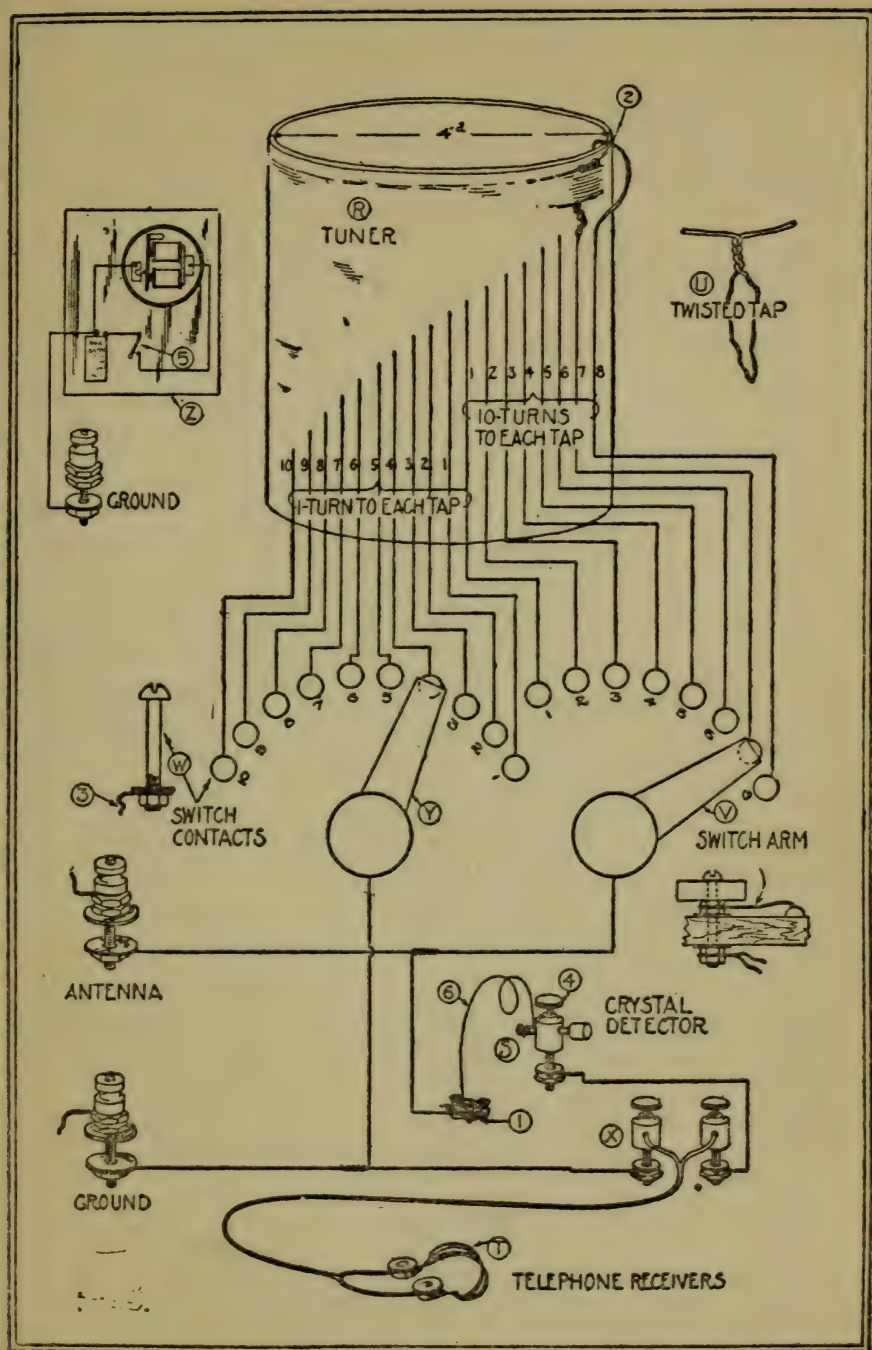
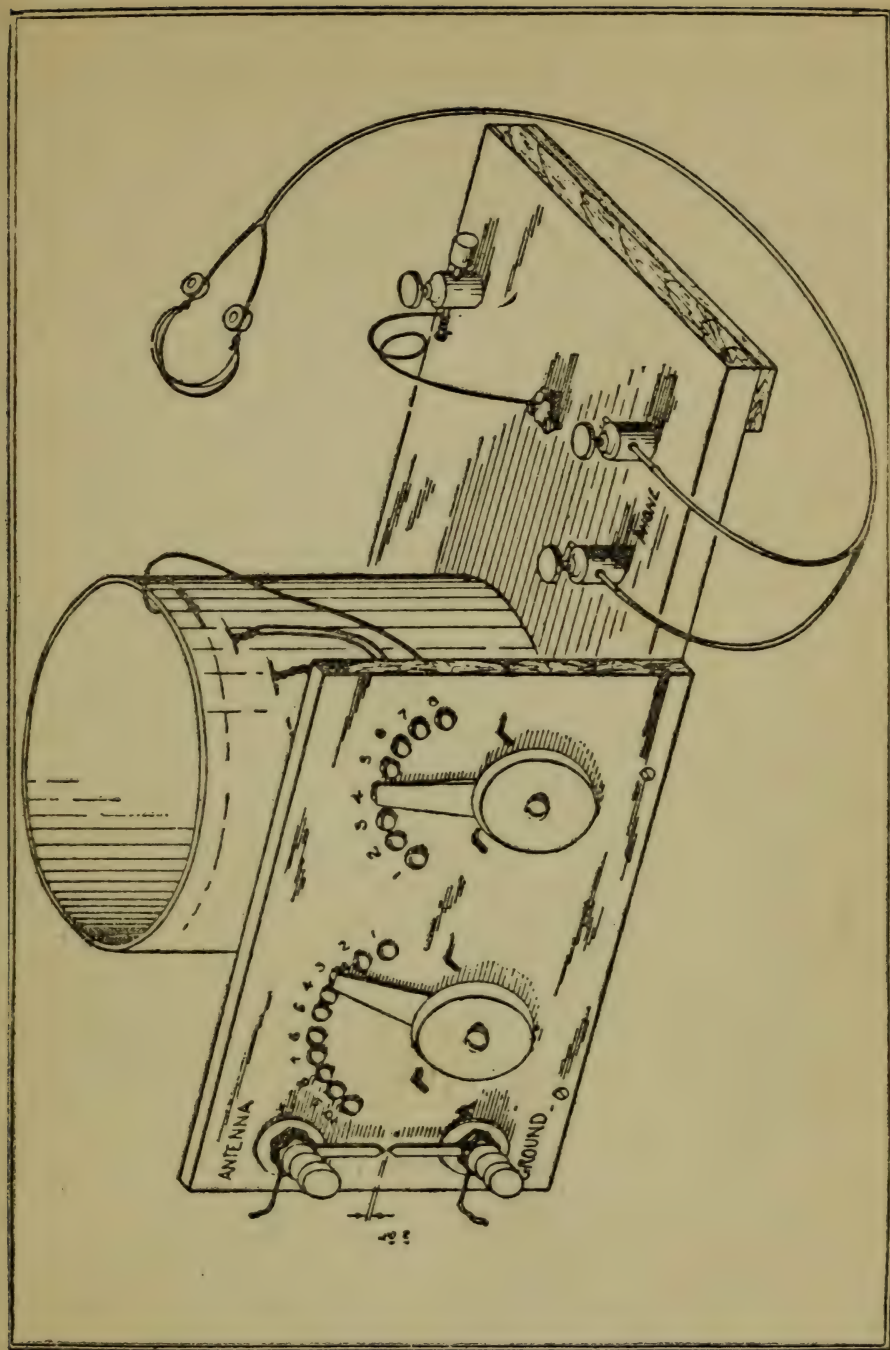

Fig. 9
Fig. 10
*Tuner (R, Fig. 9)*—This is a piece of cardboard or other non-metallic tubing with turns of copper wire wound around it. The cardboard tubing may be an oatmeal box. Its construction is described in detail below.
*Crystal Detector (S, Fig. 9)*—The construction of a crystal detector may be of very simple design and quite satisfactory. The crystal, as it is ordinarily purchased, may be unmounted or mounted in a little block of metal. For mechanical reasons the mounted type may be more satisfactory, but that is of no great consequence. It is very important, however, that a very good tested crystal be used. It is probable also that a galena crystal will be more satisfactory to the beginner.
The crystal detector may be made up of a tested crystal, three wood screws, short piece of copper wire, a nail, set-screw type of binding post, and a wood knob or cork. The tested crystal is held in position on the wood base by three brass wood-screws as shown at 1, Fig. 9. A bare copper wire may be wrapped tightly around the three brass screws for contact. The assembling of the rest of the crystal detector is quite clearly shown in Fig. 10.
*Phone (T, Fig. 9)*—It is desirable to use a pair of telephone receivers connected by a head band, usually called a double telephone headset. The telephone receivers may be any of the standard commercial makes having a resistance of between 2000 and 3000 ohms. The double telephone receivers will cost more than all the other parts of the station combined, but it is desirable to get them, especially if one plans to improve his receiving set later. If one does not care to invest in a set of double telephone receivers, a single telephone receiver with a head band may be used; it gives results somewhat less satisfactory.
*Tuner*—See R, Fig 9. Having supplied oneself with a piece of cardboard tubing 4 inches in diameter and about  $\frac{1}{2}$  pound of No. 24 (or No. 26) double cotton covered copper wire, one is ready to start the winding of the tuner. Punch two holes in the tube about  $\frac{1}{2}$  inch from one end as shown at 2 on Fig. 9. Weave the wire through these holes in such a way that the end of the wire will be quite firmly anchored, leaving about 12 inches of the wire free for connections. Start with the remainder of the wire to wrap the several turns in a single layer about the tube, tightly and closely together. After 10 com-
plete turns have been wound on the tube hold those turns snugly while a tap is being taken off. This tap is made by making a 6 inch loop of the wire and twisting it together at such a place that it will be slightly staggered from the first tap. This method of taking off taps is shown quite clearly at U, Fig. 9. Proceed in this manner until 7 twisted taps have been taken off at every 10 turns. After these first 70 turns have been wound on the tube then take off a 6 inch twisted tap for every succeeding single turn until 10 additional turns have been wound on the tube. After winding the last turn of wire anchor the end by weaving it through two holes punched in the tube much as was done at the start, leaving about 12 inches of wire free for connecting. It is to be understood that each of the 18 taps is slightly staggered from the one just above, so that the several taps will not be bunched along one line on the cardboard tube. See Fig. 9. It would be advisable, after winding the tuner as just described, to dip the tuner in hot paraffin. This will help to exclude moisture.
*Upright Panel and Base*—Having completed the tuner to this point, set it aside and construct the upright panel shown in Fig. 10.
The "antenna" and "ground" binding posts may be ordinary  $\frac{1}{8}$  inch brass bolts of sufficient length and supplied with three nuts and two washers. The first nut binds the bolt to the panel, the second nut holds one of the short pieces of stiff wire, while the third nut holds the antenna or ground wire as the case may be. The switch arm with knob shown at V, Fig. 9, may be purchased in the assembled form or it may be constructed from a thin slice cut from a broom handle and a bolt of sufficient length equipped with four nuts and two washers together with a narrow strip of thin brass somewhat as shown.
The switch contacts (W, Fig. 9) may be of the regular type furnished for this purpose or they may be brass bolts equipped with one nut and one washer each or they may even be nails driven through the panel with an individual tap fastened under the head or soldered to the projection of the nail through the panel. The switch contacts should be just close enough that the switch arm will not drop
The telephone binding post should preferably be of the set screw type as shown at X, Fig. 9.
HAVING constructed the several parts mentioned in previous chapter and mounted them on the wood base, one is ready to connect the several taps to the switch contacts and attach the other necessary wires. Scrape the cotton insulation from the loop ends of the sixteen twisted taps as well as from the ends of the two single taps coming from the first and last turns. Fasten the bare ends of these wires to the proper switch contacts as shown by the corresponding numbers in Fig. 9.
One should be careful not to cut or break any of the looped taps. It would be preferable to fasten the connecting wires to the switch contacts by binding them between the washer and the nut as shown at 3, Fig. 9. A wire is run from the back of the binding post marked "ground" (Fig. 9) to the back of the left-hand switch-arm bolt (Y), thence
A wire is then run from underneath the right-hand binding post marked "phones" to underneath the binding post (4, Fig. 9), which forms a part of the crystal detector. A piece of No. 24 bare copper wire about  $2\frac{1}{2}$  inches long, one end of which is twisted tightly around the nail (the nail passing through binding post 4), the other end of which rests gently by its own weight on the crystal (1).
The bare copper wire which was wrapped tightly around the three brass wood-screws holding the crystal in place is lead to and fastened at the rear of the right-hand switch arm bolt (v), thence to the upper left-hand binding post marked "antenna." As much as possible of this wiring is shown in Fig. 9.
*The Test Buzzer (Z, Fig. 9)*—As mentioned previously, it is easy to find the more sensitive spots on the crystal by using a test buzzer. The test buzzer is used as a miniature local transmitting set. When connected to the receiving set as shown at Z, Fig. 9, the current produced by the buzzer will be converted into sound by the telephone receivers and the crystal, the loudness of the sound depending on what part of the crystal is in contact with the fine wire.
To find the most sensitive spot connect the test buzzer to the receiving set as directed, close the switch (5, Fig. 9) (and if necessary adjust the buzzer armature so that a clear note is emitted by the buzzer), set the right-hand switch arm on contact point No. 8, fasten the telephone receivers to the binding posts marked "phones," loosen the set screw of the binding post slightly and change the position of the fine wire (6, Fig. 9) to several positions of contact with the crystal unit until the loudest sound is heard in the phones, then tighten the binding post set screw (4) slightly.